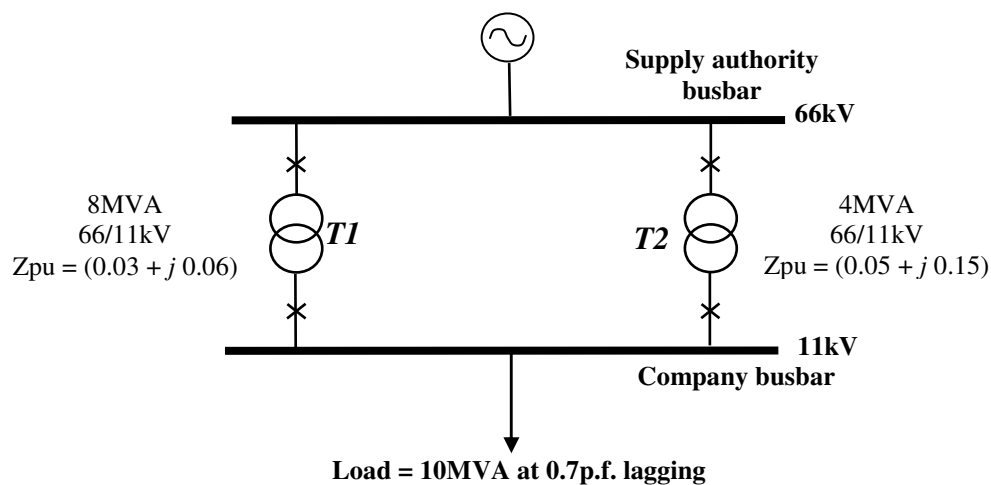

Figure A4.1
- a. What conditions would be preferred when operating transformers in parallel, and explain the consequences of deviations from these ideal conditions. (3)
- b. Explain, with the aid of suitable circuit and voltage phasor diagrams, what the designations Dy11 and Dy1 indicate on a transformer nameplate. (4)
- c. The existing electrical supply to an industrial company is taken via an 8MVA, 66:11kV, 3-phase transformer, *T1*, which has a per-unit impedance of $(0.03 + j 0.06)$. The company adds a new assembly line which increases the maximum demand from 8MVA to 10MVA at a power-factor of 0.7 lagging. As a short-term solution, the supply authority arranges for a second supply to the company to be taken via a 4MVA, 66:11kV transformer, *T2*, having a per-unit impedance of $(0.05 + j 0.15)$, and connected in parallel with the existing 8MVA transformer, as shown in Figure A4.1.
- (i) Calculate the load and power-factor of each transformer when they are operating in parallel and supplying the demand of 10MVA at 0.7 p.f. lagging. (5)
- (ii) Comment on the suitability of this solution in terms of transformer load share. (1)
- d. An in-line reactor is connected in series with one of the transformers in Figure A4.1 to apportion the transformer loadings relative to their respective MVA ratings.
- (i) Explain where you would connect the in-line reactor and calculate its per-unit impedance and MVA rating. (3)
- (ii) Calculate the new loadings taking into account the reactor, to give evidence that the reactor has achieved load sharing. (2)
- e. To meet future production needs it is proposed to add a 4MVA synchronous motor, operating at 0.8 p.f. leading, in addition to the existing 10MVA load in Figure A4.1. Calculate the new overall demand of the factory and decide whether the two transformers (including the in-line reactor) could still cope without being overloaded. (2)